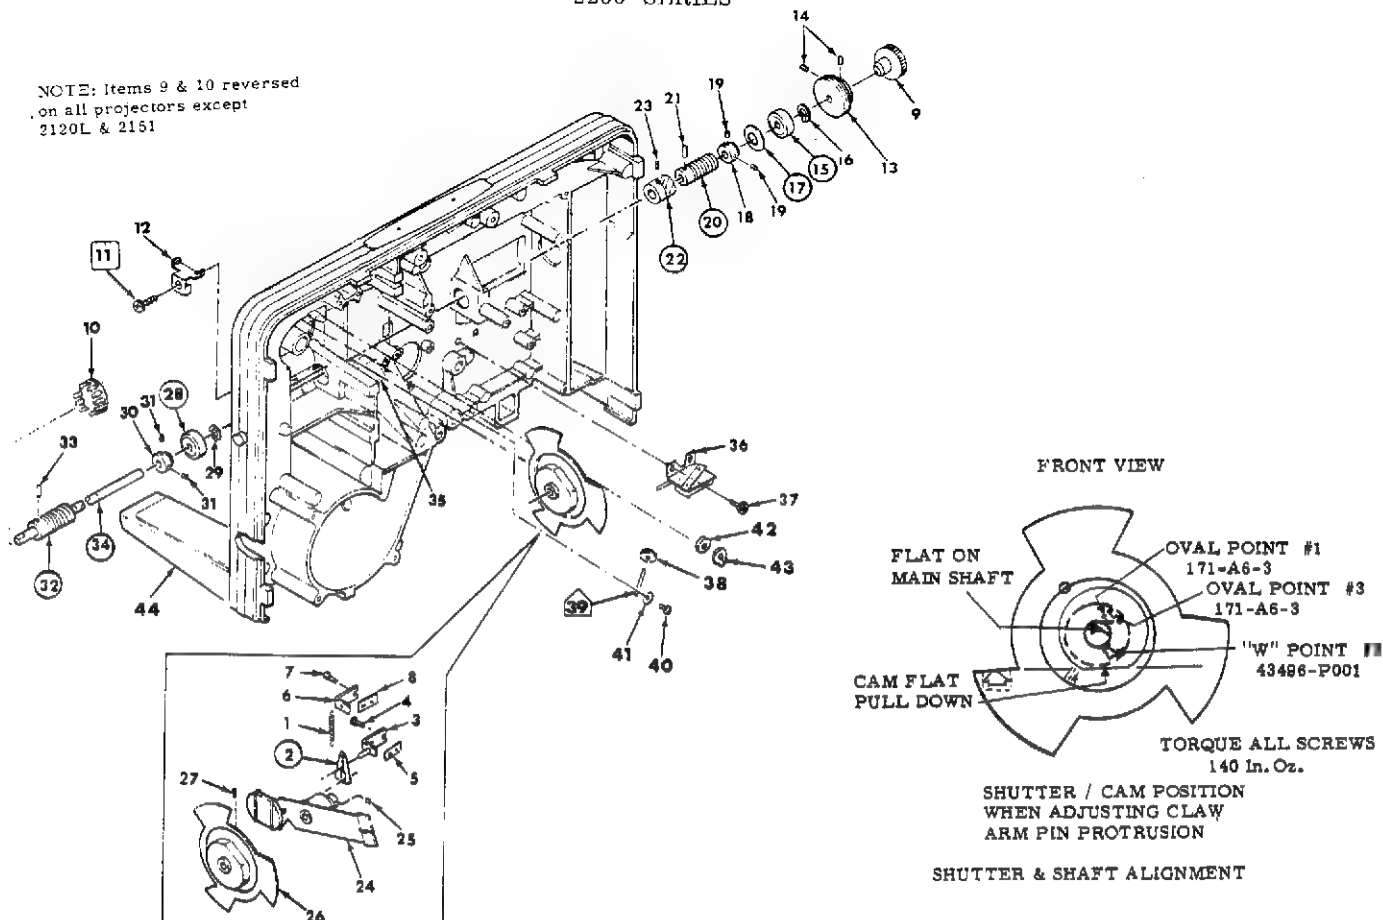

Figure 3-19. REMOVAL AND REASSEMBLY OF MAIN SHAFT
M. Removal of Main Shaft Ref. Figure 3-19
2. Loosen both Set Screws (14) in the Pulley (13) so the Pulley will rotate freely on the Main Shaft. (Figure 3-19)
3. Loosen both Set Screws (19) in the Collar (18) so the Collar will rotate freely on the Main Shaft (34).
4. Loosen Set Screw (23) in the pinion (22) so the Pinion will rotate freely on the main shaft.
5. Remove the oval point Jam Screw (27) and loosen the remaining two Set Screws in the Shutter and Cam Assembly (26) so the Cam Assembly will rotate freely on the Main Shaft.
6. Loosen both Set Screws (31) in the Collar (30) so the Collar will rotate freely on the Main Shaft.
7. Loosen Set Screw (25) in the Safety Shutter (24) so the collar of the Safety Shutter rotates freely on the Main Shaft. Unhook the Link (2) from the Safety Shutter and allow the Spring (1) to pull the Link against the Pin on the Bracket Assembly (3). (Disregard for projectors having no Safety Shutter.)
9. Rotate the Main Shaft (34) until the flat on the shaft just behind the Front Bearing (28) is at about 1 o'clock (See Shutter and Shaft Alignment insert on Figure 3-19). Rotate the Shutter and Cam Assembly (26) until the Setscrew (#1 in insert) lines up with the flat on the Shaft (34). Gently push the Shutter and Cam Assembly forward while pushing down on the Claw Arm until the cam follower on the Claw Arm slips under the the Cam. Tighten the Setscrew (#1 in insert) on the flat of the Shaft (34). Make sure the Claw Arm is not hitting the Aperture Plate.